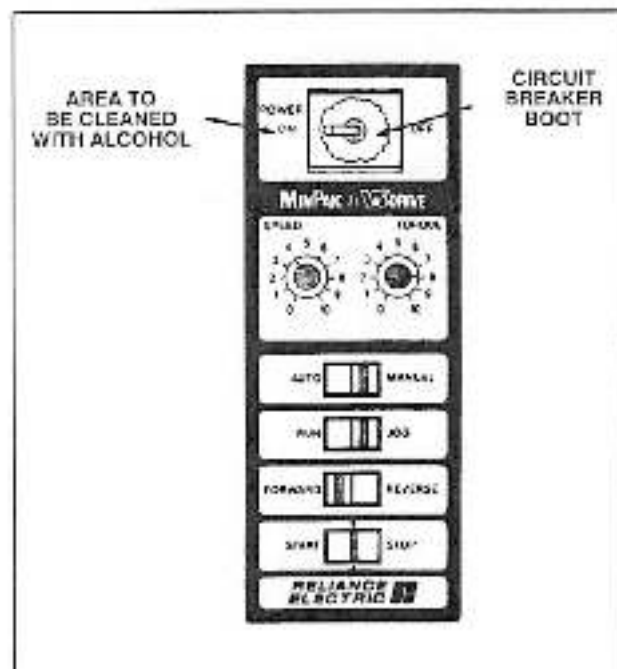

Figure 4 – Local Faceplate With All Options
2. Clean the area around the circuit breaker boot, on the Local Control Operators Station that is to be installed, with alcohol. (Refer to Figure 4).